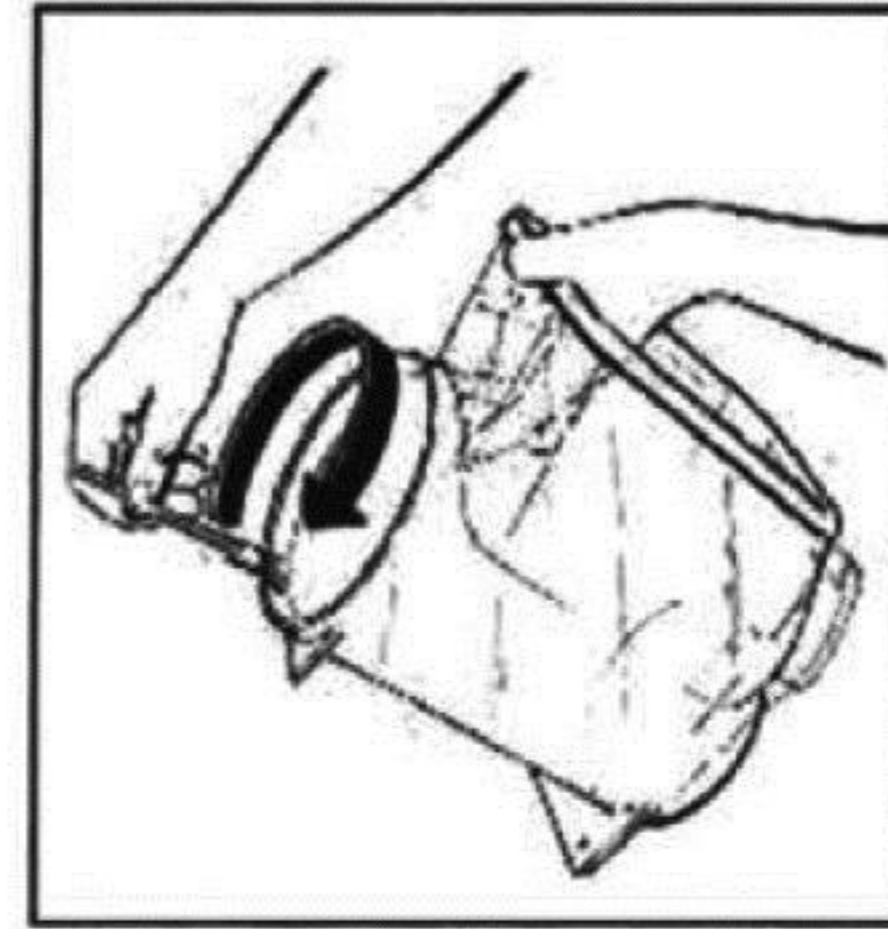

fig.37
- Moisten with water the rear of the tank where it meets with the seal to facilitate the reassembling procedures (see fig.37).